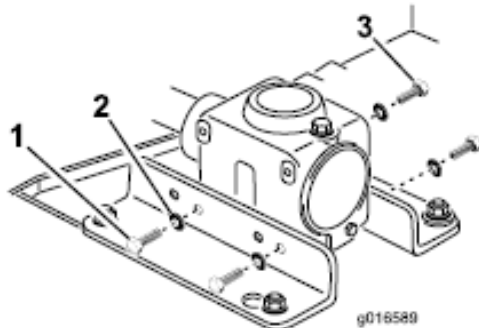

Figure 1
3. Loosen the (4) screws that secure the gear box to the support brackets (Figure 1).
4. Remove and discard the (2) screws that secure the right side (discharge chute side) of the gearbox to the support bracket (Figure 1). Retain the lock washers.
5. Remove and retain the (2) screws and lockwashers that secure the left side (opposite the discharge chute side) of the gearbox to the support bracket (Figure 1). Retain the screws and lock washers.